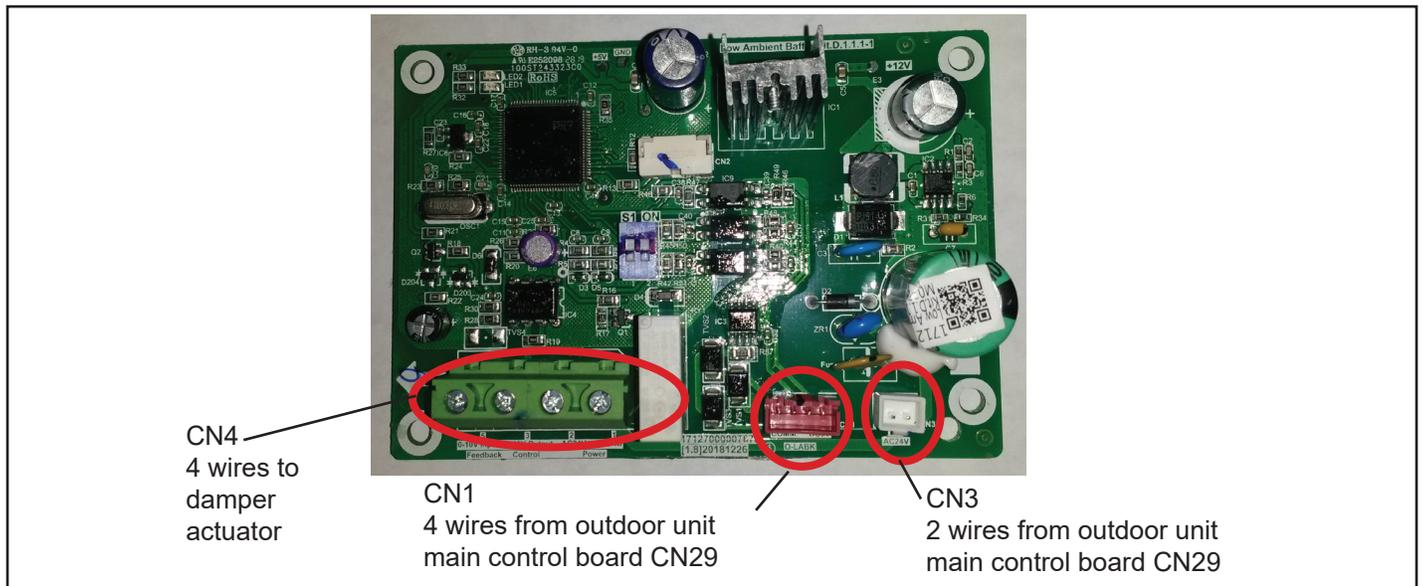

Figure 13. Damper Motor Control Board
- The wires will connect to the main control board as shown in Figure 13.
- Locate CN1 and CN3 connections on the PCB of the low ambient cooling kit hood damper. Figures 13 & 16.